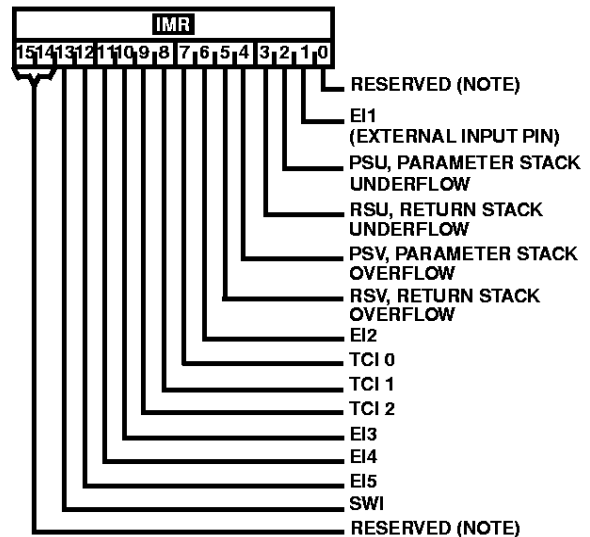

FIGURE 6. **IMR** BIT ASSIGNMENTS
**IMR**: The Interrupt Mask Register has a bit assigned for each maskable interrupt which can occur. When a bit is set, the interrupt corresponding to that bit will be masked. Only the Non-Maskable Interrupt (NMI) cannot be masked. See Figure 6 for bit assignments for this register.